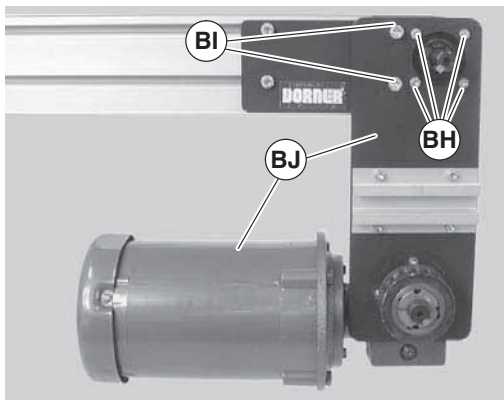

Figure 43
- e. Remove four (4) M5 mounting screws (Figure 43, item BH) and two (2) M8 mounting screws (BI).
- f. Remove gearmotor and mounting plate assembly (Figure 43, item BJ).